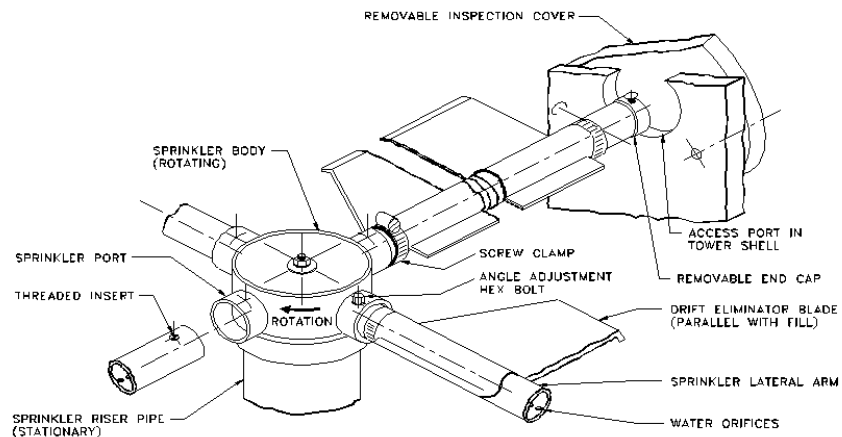

Figure 2 – Water Distribution Sprinkler System
- All four (4) sprinkler lateral arms, (see Figure 2), are normally shipped detached and are packaged and secure inside the tower. Remove these lateral arms before up-righting and lifting cooling tower.
- Two (2) aluminum lifting lugs secured to the top of the cylindrical section of the cooling tower are provided for up-righting and lifting purposes. Install adequate hooks and
- The drift eliminator blades are preassembled and do not require any adjustment. Simply check to be sure the hose clamps on each end of the lateral arms are tight. With the lateral arms installed, the drift eliminator blades should be parallel with the top of the fill (See Fig. 2).
- To remove the sprinkler head, first remove the sprinkler lateral arm and drift eliminator blade assemblies. Then remove the two (2) riser pipe screws. (Refer to Figures 2 and 4).
1. Match mark riser pipe assembly and coupling. Remove the two (2) riser pipe screws and remove the entire sprinkler head assembly from the coupling.